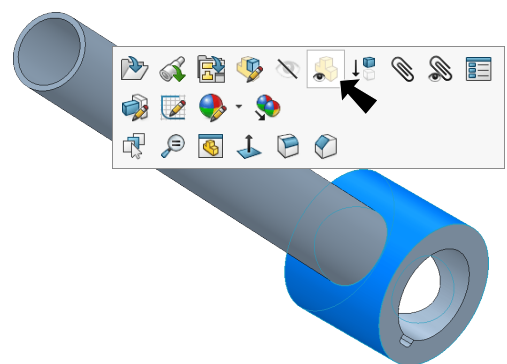

Fig. 13
Step 3. **Change Transparency of Tube**  part. To change, click the Tube in graphics area and click **Change Transparency**  on the context toolbar, **Fig. 13**.